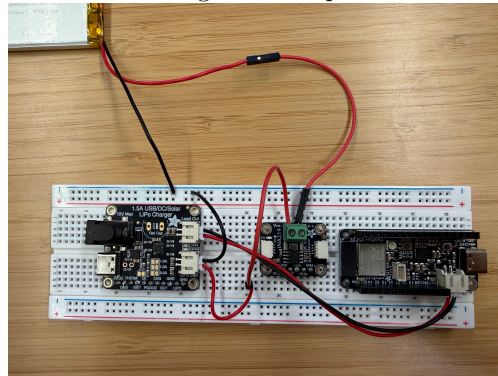

Figure 2: After Step6
6. Connect the negative terminal of the JST breakout cable on the battery charging board, and the battery to a common ground with the microcontroller. After this step, your bread board will look like Figure 2.